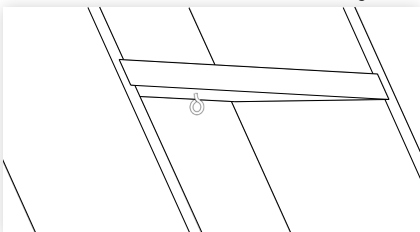

figure 14
2. Measure to the mid-point of the bottom tread and screw the provided screw eye into the tread (figure 14). This is to help unfold the ladder upon opening it.